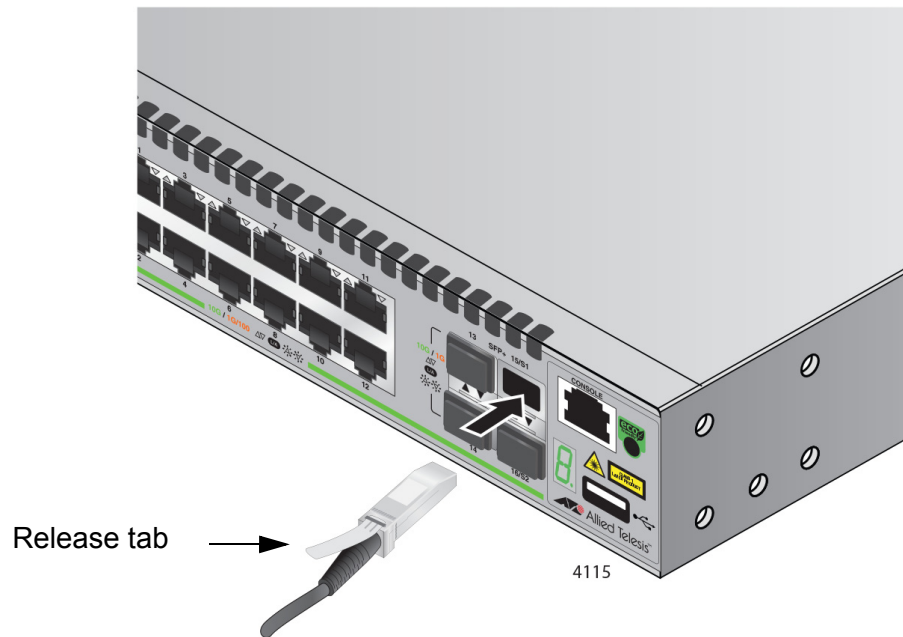

Figure 35. Installing the Transceiver in Slot S1
4. Position the transceiver with the release tab on top and slide the transceiver into the slot, as shown in Figure 35.